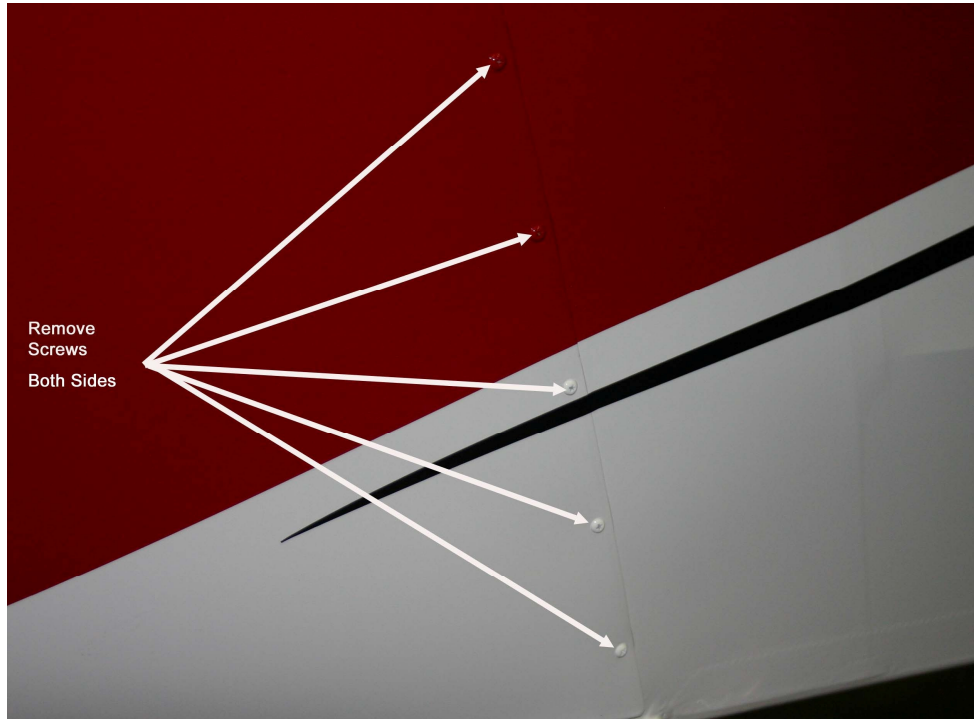

Figure 5
4. Remove screws along the back side of the boot cowl. See Figure 5.